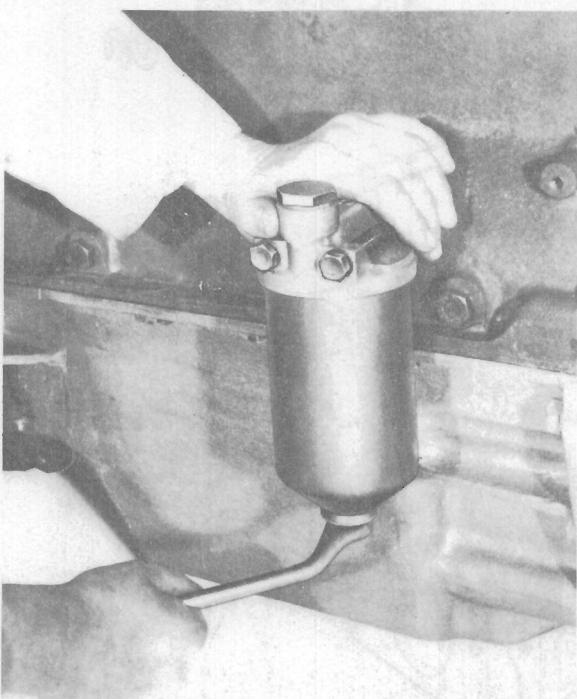

Fig. L.3.
1. Unscrew the centre bolt at bottom of cover (see Fig. L.3).